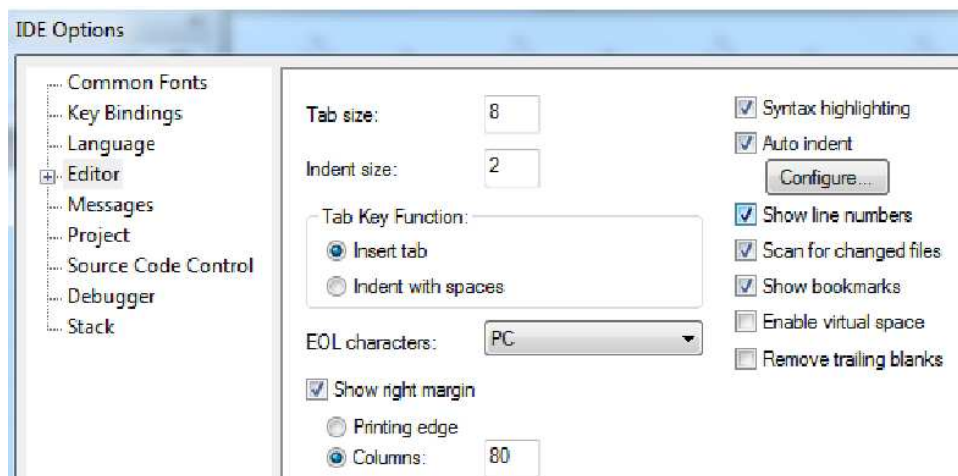

Figure 1.9: IAR integrated development environment (IDE) options.
6. Click 'Tools > Options ... > Editor' and make sure you click the radio button for 'Insert Tab' under the 'Tab Key Function:' alternatives. You may want to check the 'Show line numbers' option. Then click 'OK'. If you do not check the 'Insert Tab' radio button, then eight (8) space characters will be inserted in your source file whenever you press the Tab key as opposed to just one (1) tab character. Your source file could then grow rather fast in size. The 'Show line numbers' option, although not strictly needed, could turn out to be rather useful. These alternatives are illustrated in Figure 1.9 taken as a screenshot in IAR Embedded Workbench.